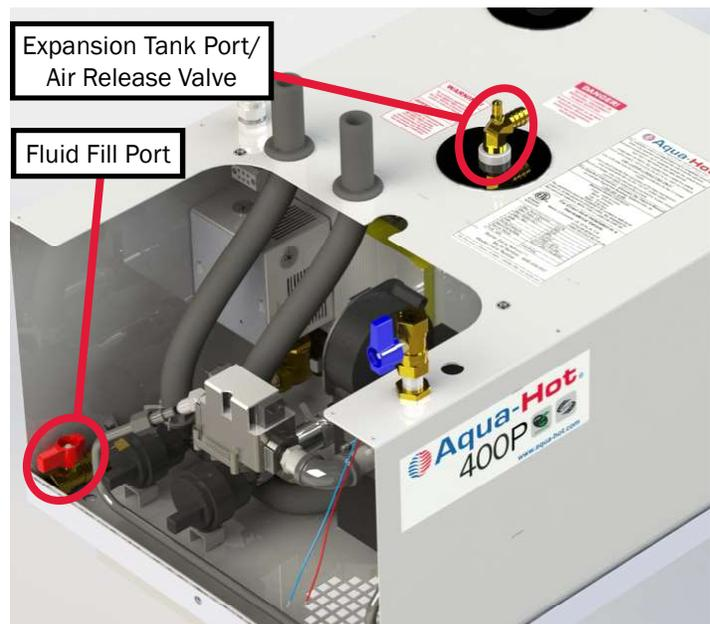

Figure 134
3. Open the Aqua-Hot’s drain valve located at the front of the heater. Reference Figure 134.